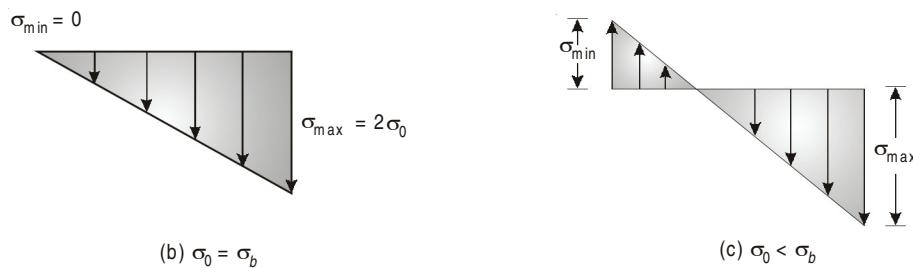

Fig. 7.3
- (i) If $\sigma_0 > \sigma_b$, the stress throughout the section will be of same nature i.e. compressive. Refer Fig. 7.3(a).
- (ii) If $\sigma_0 = \sigma_b$, the stress throughout the section will be of same nature i.e., compressive. In this case, $\sigma_{\max} = 2 \sigma_0$ and $\sigma_{\min} = 0$. Refer Fig. 7.3 (b).
- (iii) If $\sigma_0 < \sigma_b$, the stress will be partly tensile and partly compression. Refer Fig. 7.3 (c).